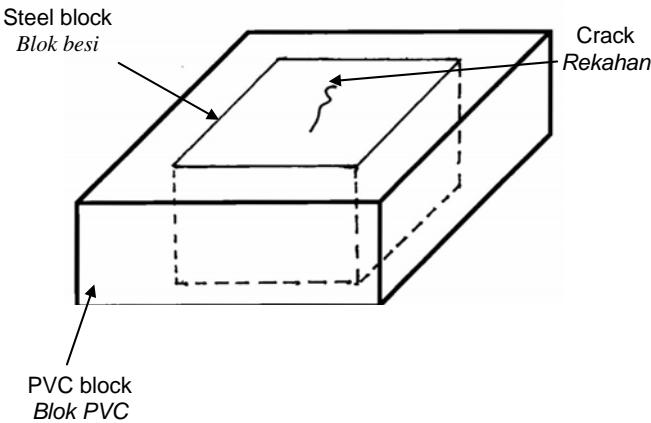

Figure 1: Steel and ABS block
1. Figure 1 shows a cracked steel block ( $30 \times 30 \times 15 \text{ cm}^3$ ) in acrylonitrile butadiene styrene (ABS) polymer block.
- [b] Based on Figure 1, explain and draw the sequence for magnetic particle test.